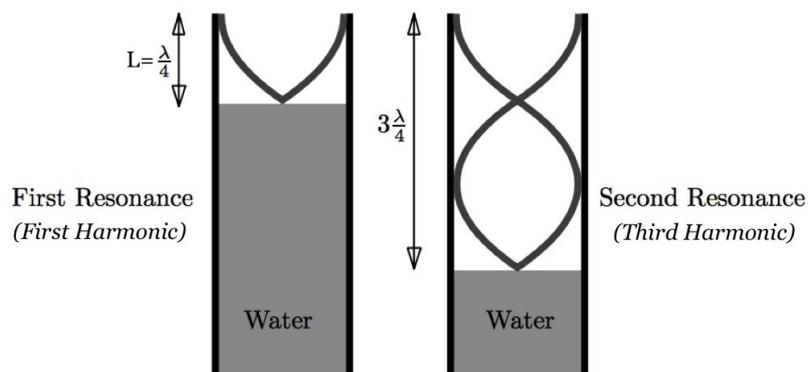

Figure 1: The first two resonances in an open air column.
In this experiment we will create longitudinal standing waves in a tube containing air. The tube, shown in Fig. 1, is open at the top and filled with water at the bottom. By adjusting the amount of water in the tube one may lengthen or shorten the length L of the column of air in the tube. If a tuning fork is held over the open end of the tube and struck, it excites the air molecules in the tube and causes a sound wave to propagate down the length of the tube to the air-water boundary where it is reflected back up the length of the tube to the open end.
means that the fundamental (first harmonic) standing wave in such a tube occurs when the column of air is of length $L = 4\lambda$, shown in Fig. 1(a). The second resonance, shown in Fig. 1(b), is when the water level is $L = 3\lambda/4$ beneath the mouth of the tube, the third at $L = 5\lambda/4$, etc. The series of nodes and antinodes in a tube open at one end and closed at the other form an odd harmonic series (in tubes open at both ends or closed at both ends all harmonics are possible). Thus the condition for a standing wave, or resonance, to form in a tube closed at one end is $L = n(\lambda/4)$, or
5. **END CORRECTIONS:** You may have found that all of your values for the speed of sound are close to, but somewhat below, the known value $v = 343\text{m/s}$. It turns out that a number of very careful experiments have shown that the idealized pictures shown in Fig. 1 are not the whole story for tube resonance. The figure next to Table 2 shows a more realistic picture of the sound waves at first resonance for a tube of diameter d . Here we see that the position of the anti-node is not *exactly* at the tube entrance, as we assumed in Fig. 1, but is in fact slightly above it. This affect is also seen for all order resonances. It's clear from this more realistic picture that the distance from the node (water surface) to the antinode is slightly longer than the measured distance L . The extra length depends on the tube diameter d , and has been found to be approximately equal to $0.35d$.